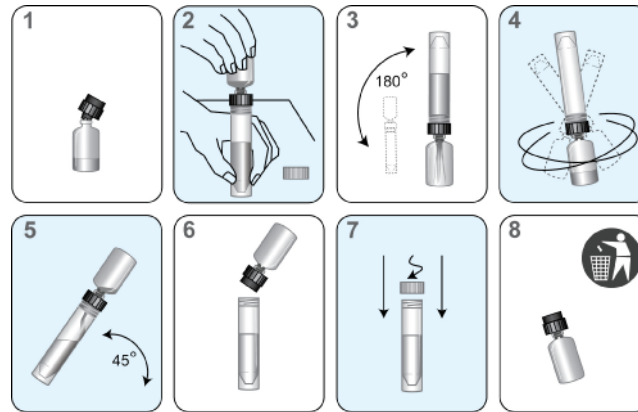

Figure 4. Reagent Reconstitution Process
- ii. Firmly insert the notched end of the reconstitution collar (black) onto the vial (Figure 4, Step 1).
- iv. Place the reconstitution solution bottle on a stable surface (e.g., bench). Then, invert the lyophilized reagent vial over the reconstitution solution bottle and firmly attach the collar to the reconstitution solution bottle (Figure 4, Step 2).
- v. Slowly invert the assembled bottles (vial attached to solution bottle) to allow the solution to drain into the glass vial (Figure 4, Step 3).
- vi. Pick up the assembled bottles, and swirl the assembled bottles for at least 10 seconds (Figure 4, Step 4).
- c. Slowly tilt the assembled bottles again to allow all of the solution to drain back into the reconstitution solution bottle (Figure 4, Step 5).
- d. Carefully remove the reconstitution collar and glass vial (Figure 4, Step 6).
- e. Recap the bottle. Record operator initials and reconstitution date on the label (Figure 4, Step 7).